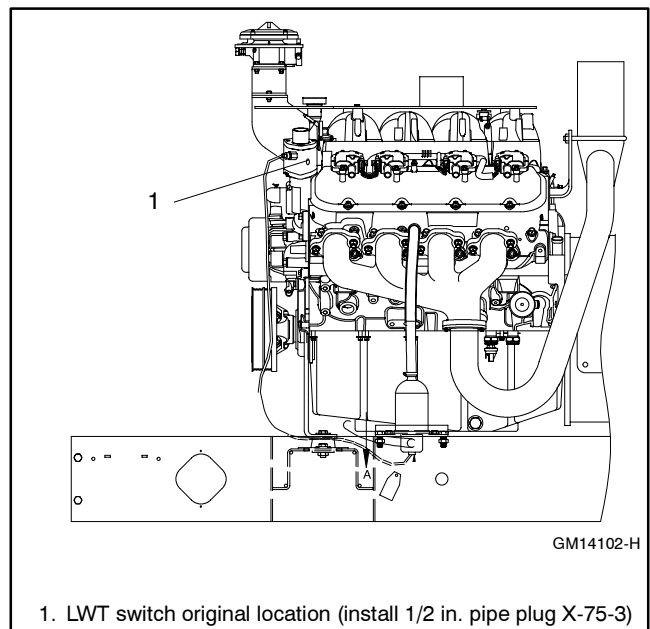

Figure 2 LWT Switch Original Location
1. Locate and disconnect LWT switch leads 35A and N from the switch. See Figure 2.